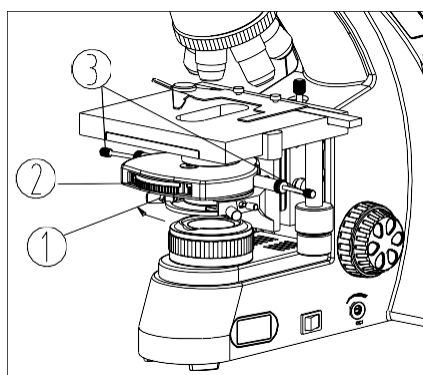

Fig. 37
(1) Assembling of Condenser please refer to 2-2-1, change the objective on the nosepiece to phase contrast objective, Center the phase contrast condenser before use.
(2) Rotate the phase contrast ring ② to “BF” position in bright field observation. When it sounds “ka-da” in rotating, it indicates that one diaphragm or hole is rotated into the center of optical path (see Fig. 37).
In phase contrast microscopy observation, slide the aperture diaphragm lever ① to the most left as the direction of the arrow pointed (always keep the aperture diaphragm at maximum). (See Fig. 37)
(1) Put specimen on the stage and focus.
(2) Take out one observation eyepiece and insert one CT (centering telescope) into the tube
(3) Confirm the corresponding phase ring (in phase contrast objective) and halo (in phase contrast disc ②) are moved into optical path.
(5) Center by phase contrast adjusting lever③ until halo④ center overlaps the phase ring⑤ center (see Fig. 37 and 38).
(6) Adjust phase ring and halo of other magnification phase contrast objective according to the above steps.